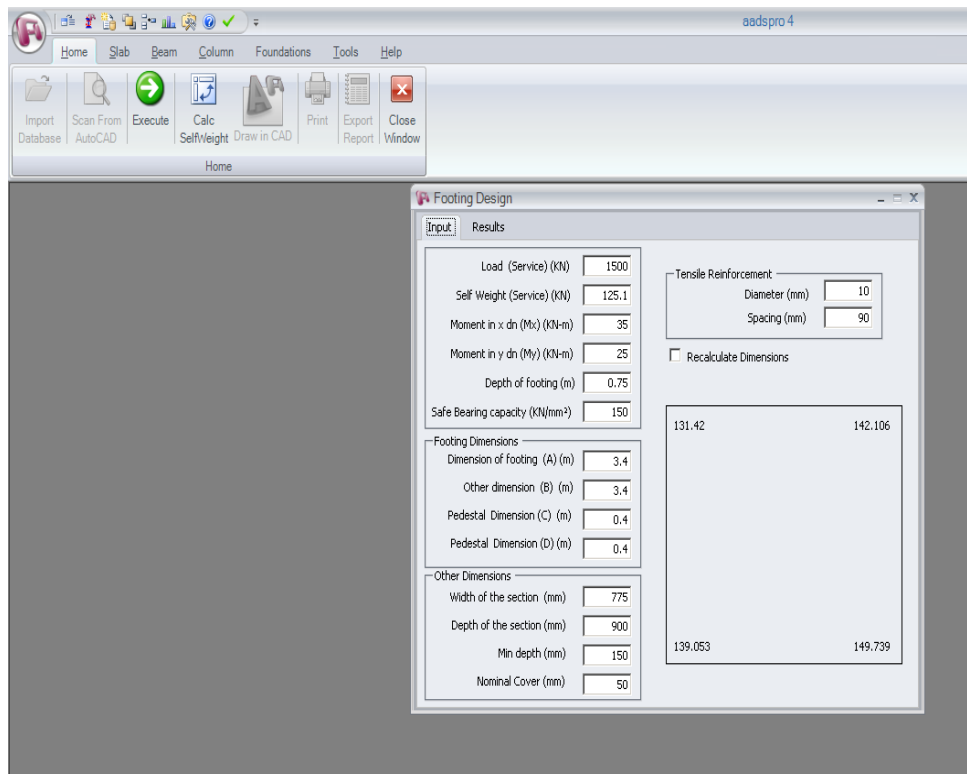

Fig 4.2.4
4.2.2. Example for footing design (fig 4.2.4)